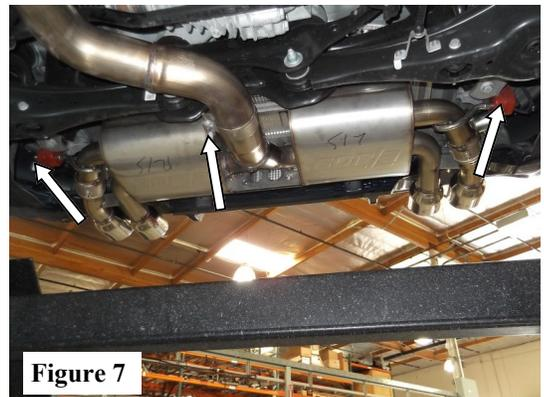

Figure 7
3. Place the Accuseal clamp over the mid pipe Assembly, and insert into the rear Muffler Assembly, insert the hangars into the rubber isolator and connect electrical valve. Re install bolts to the cross brace. (See Figs. 7) **DO NOT tighten the clamp.**